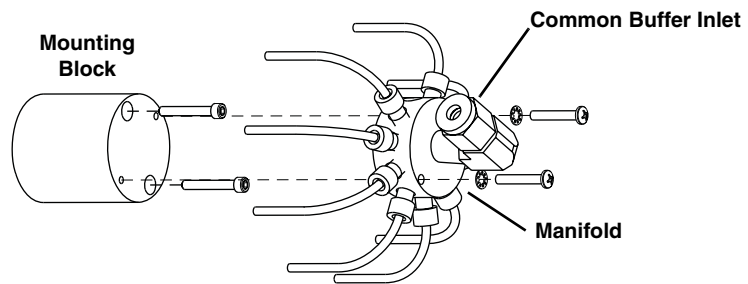
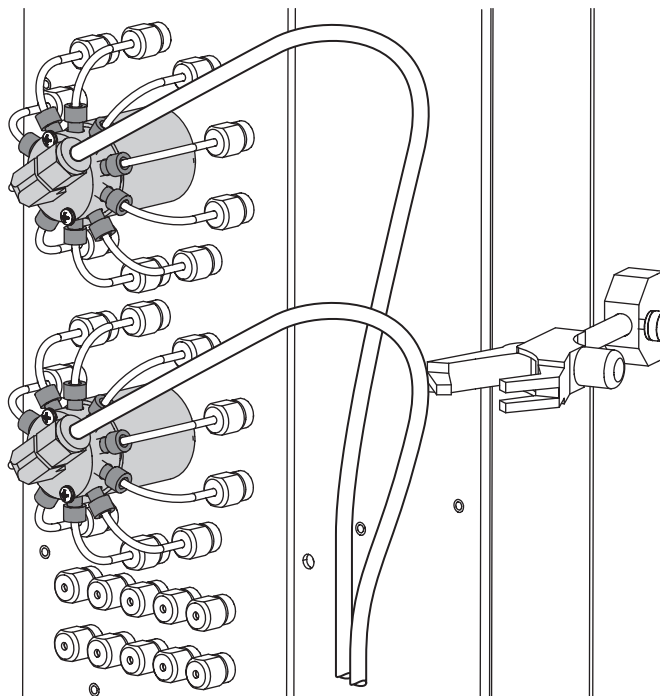

Figure 2-14 Buffer assembly routes a common solution to all ten channels
Figure 2-15 Buffer assemblies installed
- If a common buffer solution will be used for all ten channels, install the Buffer Assembly (P/N 60-5204-064), found in the accessory kit. Figure 2-14 illustrates the Buffer Assembly parts. Figure 2-15 shows the buffer assembly installed on the BioOptix 10.